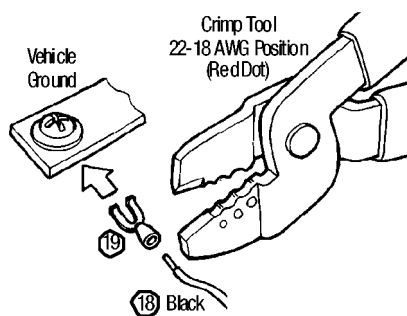

Figure 8: Crimping the Spade Terminal
A ground connection may be made by inserting the spade terminal (19) under the head of a screw threaded into the vehicle chassis (Figure 8). Use a multimeter to verify the ground connection to vehicle chassis. The fusebox mounting screws are candidate connections. If a screw is not convenient, locate a ground wire that is 22-18AWG or has the same diameter as the black ground wire. Use an in-line splice (20) to make the connection to the black ground wire.